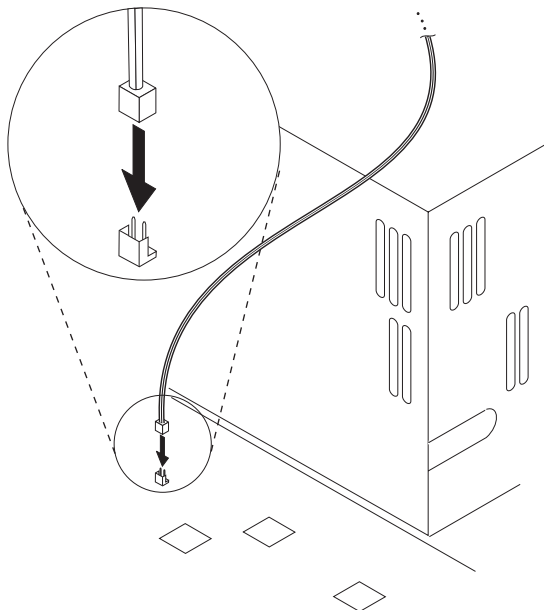

Figure 2-6. PC Wake on LAN Signal Connector (2-Pin)
- 3** With your PC cover off, locate the 2-pin Wake on LAN signal connector on the PC planar as shown in Figure 2-6. On the male-female end of the 3-way cable, connect the female connector to the PC 2-pin Wake on LAN signal connector. Make sure that the cable is below the riser bracket so that it does not become dislodged or damaged when you close or open the PC cover.